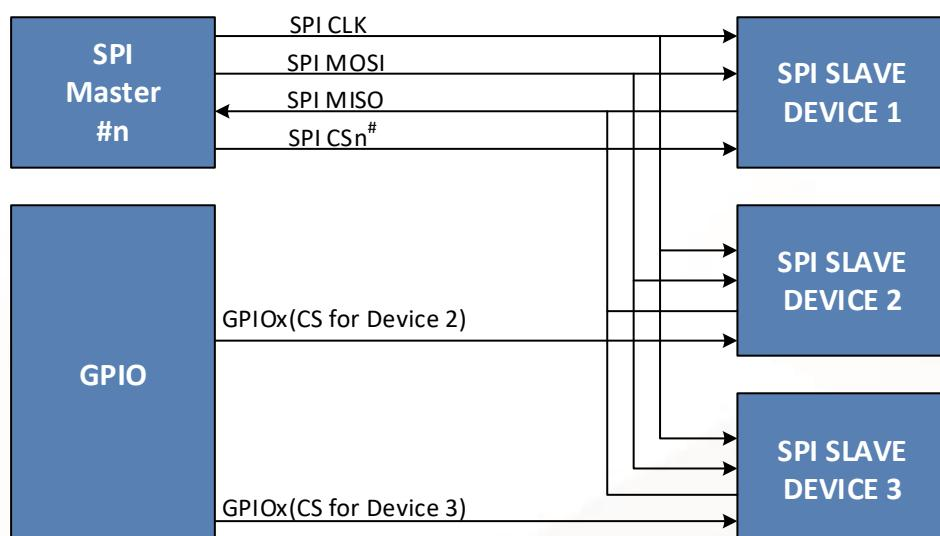

Figure 7-11. Pin Connection Between One Master and Multiple Slaves in Single Mode
- CS GPIO mode (SPIn Base address+0x0018) [18]: The SPI_CS pin can be replaced by any GPIO pin. Software controls the GPIO pin as the SPI_CS pin, so a single SPI master can be selected and communicate with multiple SPI slaves. Figure 7-11 is the block diagram of the multi-slave topology for single mode. The CS pin for devices 2, 3, 4 and so on is replaced by the GPIOn pin.